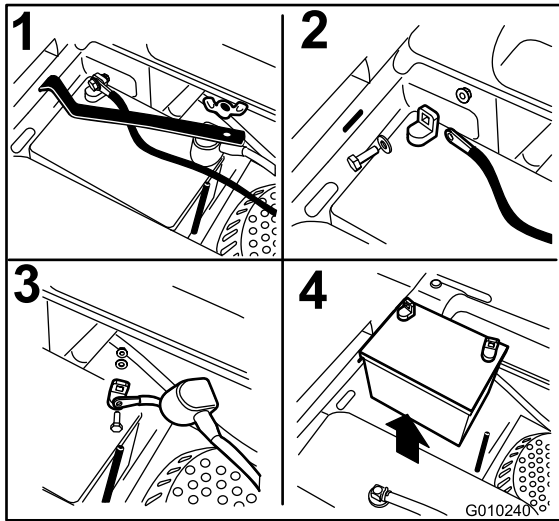

Figure 48
3. Remove the wing nut securing the battery clamp (Figure 48).
4. First disconnect the negative battery cable (black) from the negative (-)(black) battery terminal (Figure 48).
5. Slide the red terminal boot off the positive (red) battery terminal and remove the positive (+)(red) battery cable (Figure 48).
6. Remove the clamp (Figure 48).
1. Position battery in the tray with the terminal posts opposite from the hydraulic tank (Figure 48).
5. Secure the cables with 2 bolts, 2 washers, and 2 locknuts (Figure 48).
6. Install the clamp and secure it with the wing nut (Figure 48).